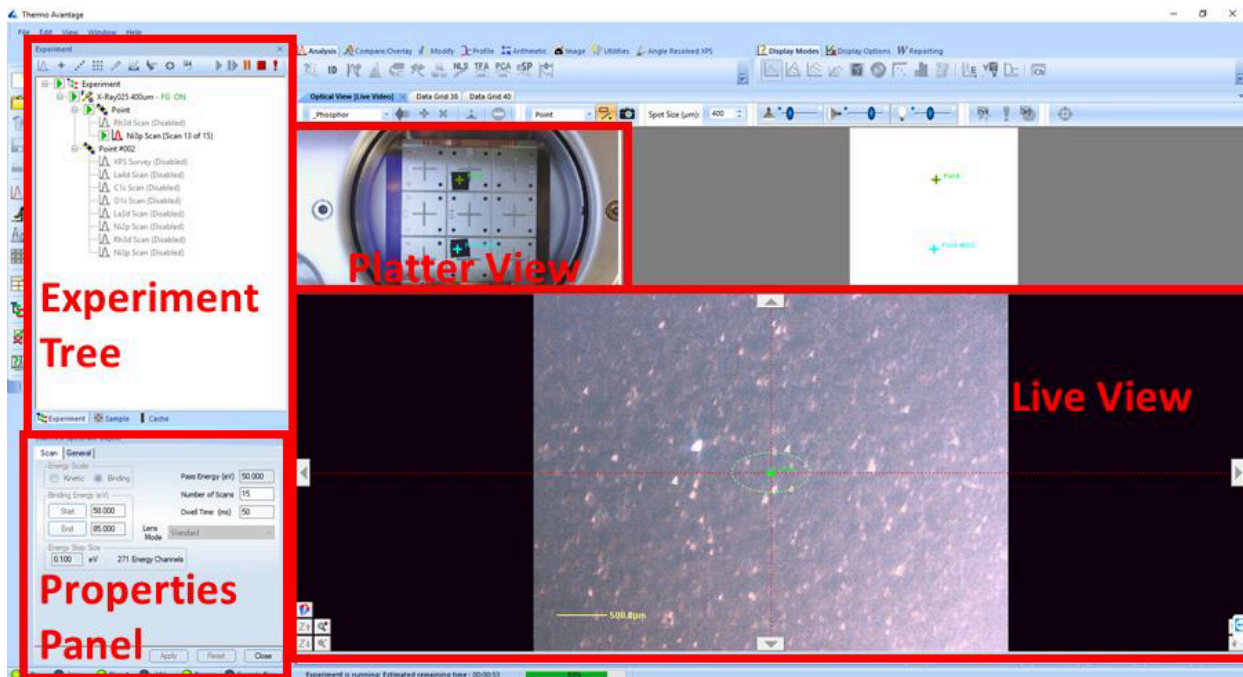

Figure 5: Avantage program of the sample views and experimental list.
8. To select the sample for analysis, double click on the sample shown in the Platter View window or double click on the sample in the Live View. You can also move the stage around by using arrows in the Live View (**Figure 5**).
When setting up an experiment, it is recommended to change the default names for every Experiment Control chosen in the Experiment Tree. You can change the names by clicking on the specific control or by using the **General** tab in the Properties Panel (**Figure 5**).